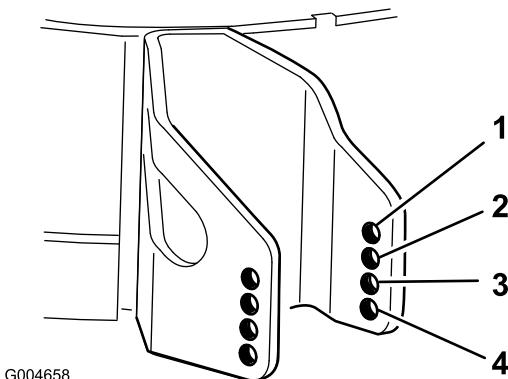

Figure 23
4. Select a hole so the anti-scalp roller is positioned to the nearest corresponding height-of-cut desired (Figure 23).